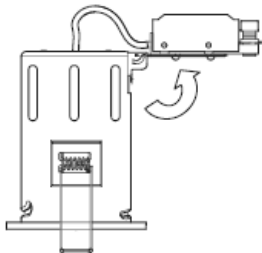

Fig. 2
- Fold-out the terminal bracket until it locks into position (see Fig. 2)